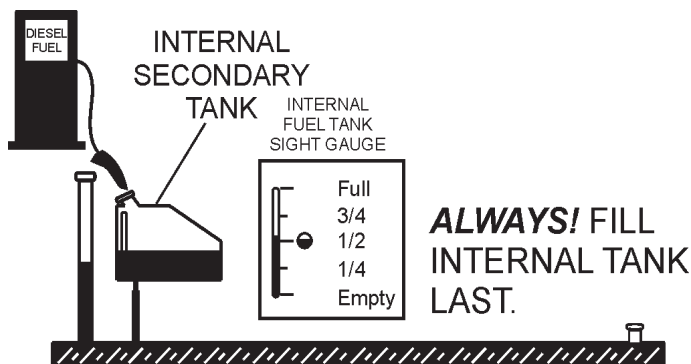

Figure 36. Filling Secondary Internal Fuel Tank
DO NOT OVERFILL fuel system. Leave room for fuel expansion. Fuel expands when heated (Figure 36).
4. Once the trailer tank is full, the **secondary inner tank** can be filled (See Figure 36). Notice how the trailer filler tube level rises when the internal tank is filled.